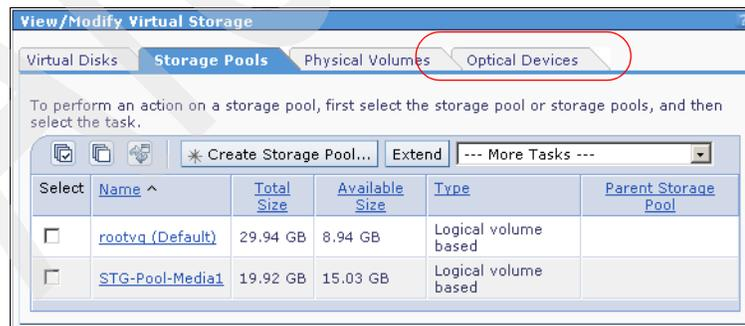

Figure 4-3 Media library - new storage pool
- The storage pool was created. Now select the **Optical Devices** register card. See Figure 4-3.